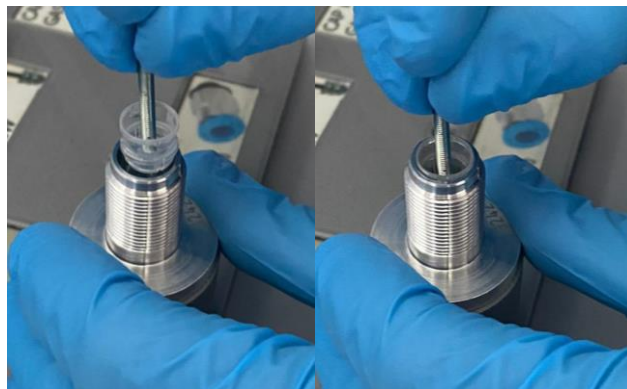

Fig. 8. The method of inserting the piston impaled on the M2.5x30 screw into the input hole of the cartridge cylinder.
Step 26. Insert the piston scooped onto an M2.5x 30 bolt into the entry hole of the cartridge cylinder, (Fig.8).